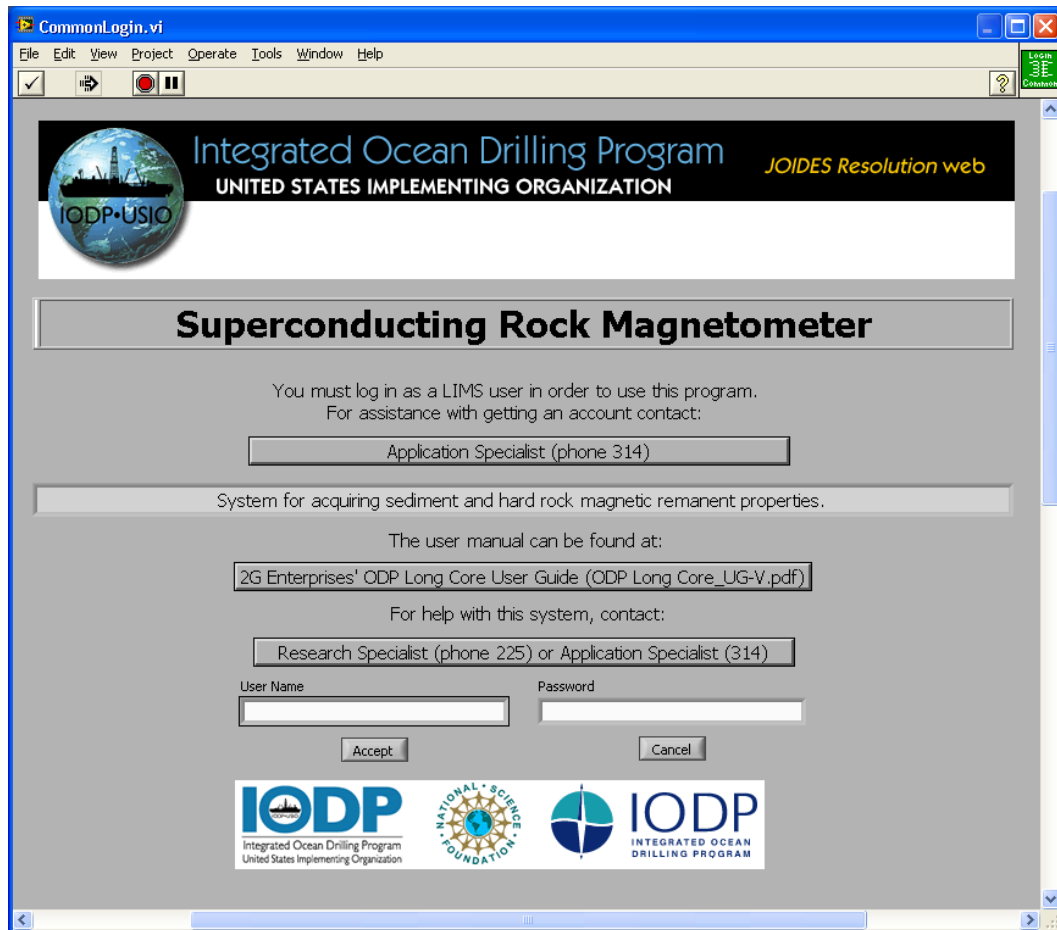

Figure 3. LIMS Login screen.
2. Enter LIMS credentials into the application login screen (**Figure 3**).
X, Y, and Z are the SQUID axes; SQUID responses shown in the example in **Figure 3** are as follows: